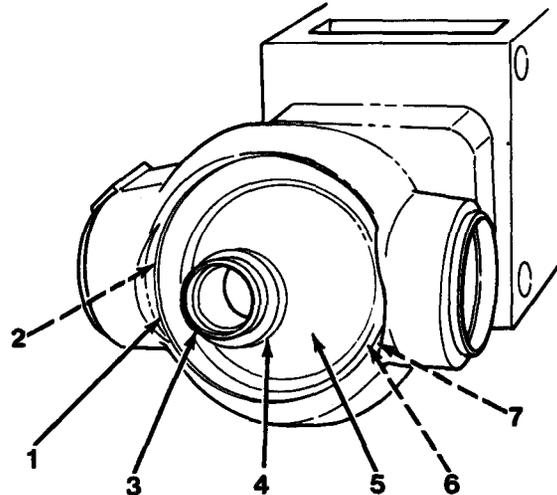

Figure 12-1
2. Remove nut (1) and seal assembly (2, Figure 12-1).
3. Remove face seal (3) and O-ring (4).